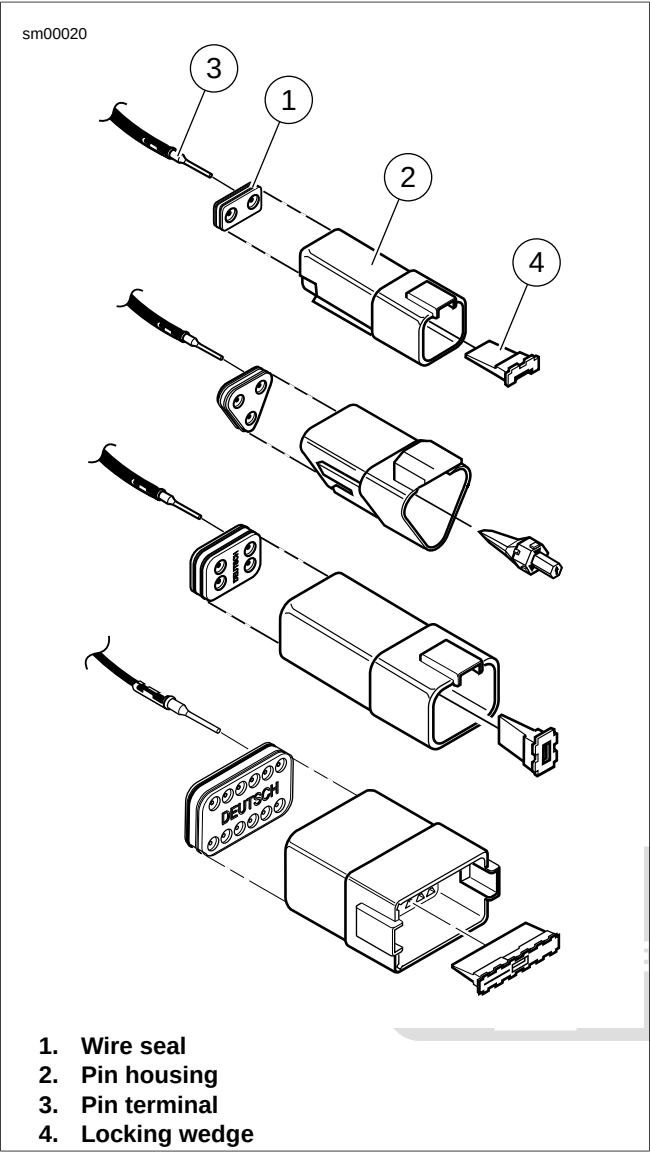

Figure A-16. Deutsch Connector: 2, 3, 4 and 12-Place Pin Housings
1. See Figure A-16. Fit wire seal (1) into back of pin housing (2).
2. Grasp wire lead approximately 1.0 in. (25.4 mm) behind the pin terminal (3). Gently push pin through holes in wire seal into its respective numbered chamber until it "clicks" in place.